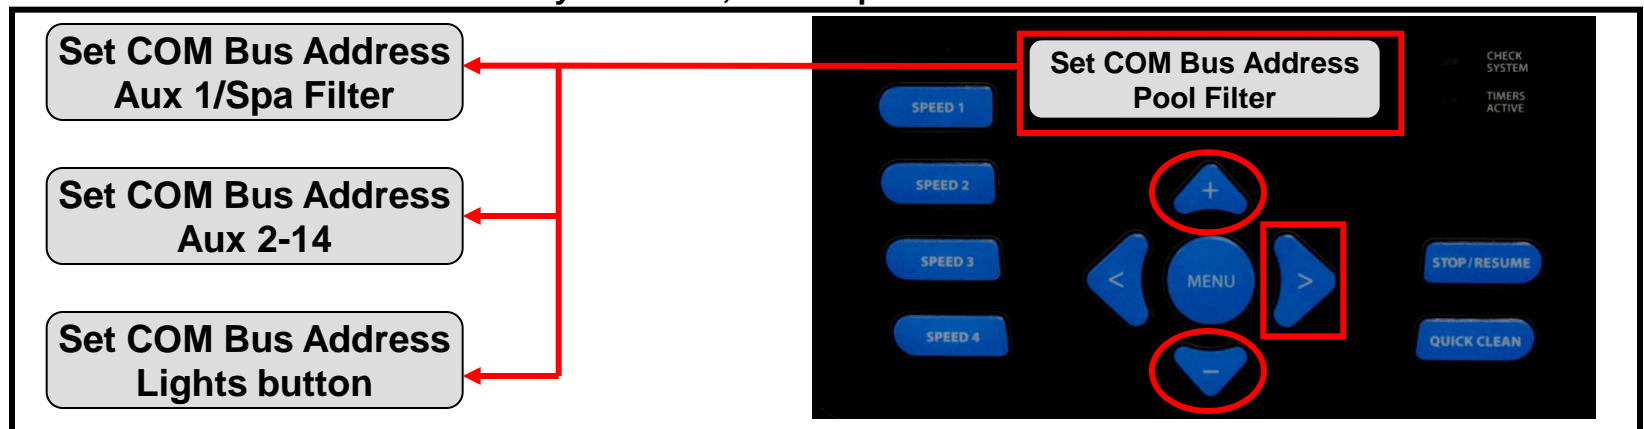

Fig 45
14. **For EcoStar interface software v2.55** data linked to a Hayward/Goldline compatible software control v4.20 or less will only recognize address 1 (Pool Filter) and address 2 (Aux 1/ Spa Filter). ProLogic control software **v4.30** or higher will allow for the control of up to 8 EcoStars assignable to individual relays/Auxiliaries (fig 45). Press the  button to continue.